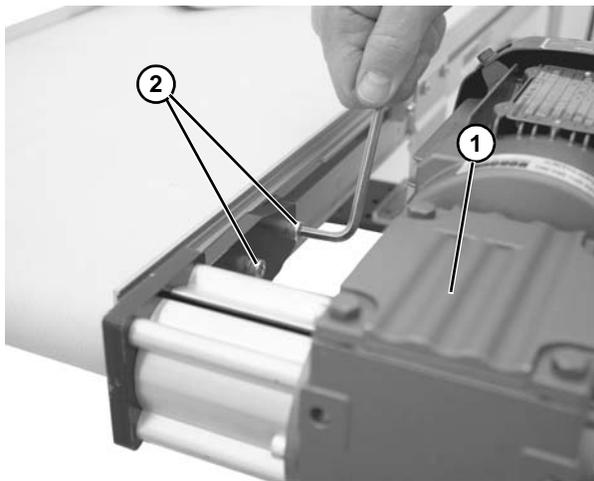

Figure 6
3. Attach side drive assembly (**Figure 6, item 1**) with screws (**Figure 6, item 2**). Tighten to 80 in-lb (9 N-m).